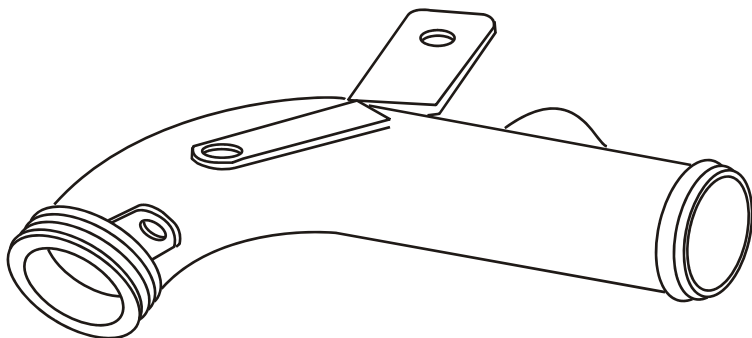

Figure 5.2
- ☐ Place the replacement metal coolant tube (Figure 5.2) in position with the upper bracket facing the front of the truck so that it will fasten to the rear passenger-side air conditioning compressor mount with the OEM fastener.